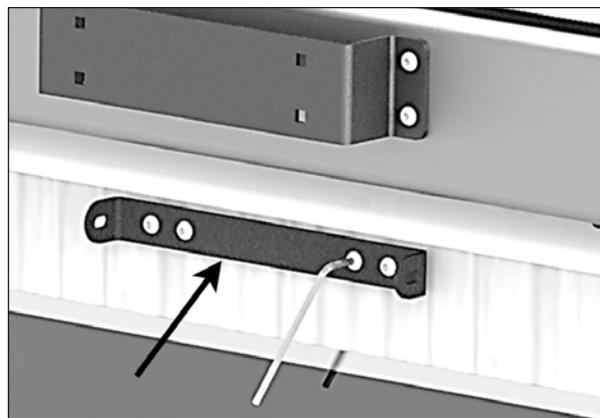

FIGURE 89: TUB MOUNT BRACKET INSTALLATION
- For 50" high spas, screw the tub mount bracket to the spa with four 1/4-20 x 3/4" button head socket cap screws using the provided 5/32" L hex key on hex standoff for all four posts see Figure 89.